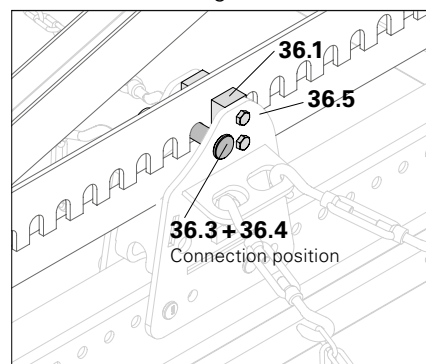

Fig. A10.03b
2. Secure blocks (**36.1**) with 2 bolts M12 x 30 respectively – 2x. (Fig. A10.03b + A10.03c)
→ The bearer and girder package are now securely connected. (Fig. A10.03b)